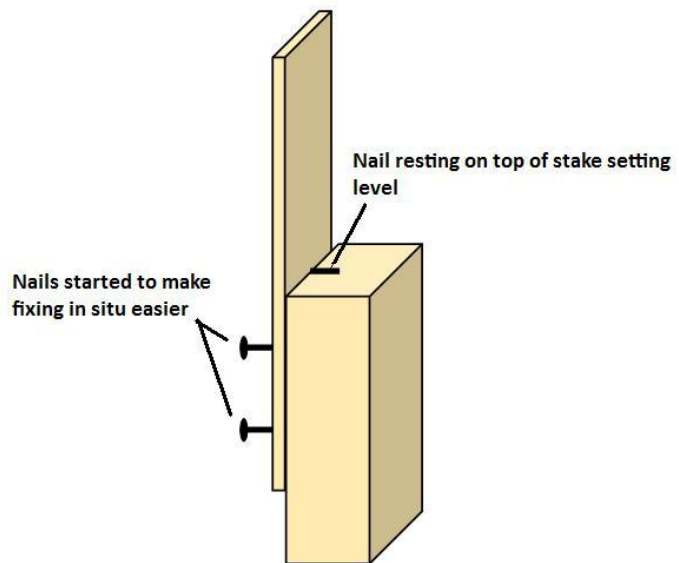

Figure 2
*When fixing the profile board to the stake, having set the profile board up already as in the figure 2, placing your shin against the back of the stake as you drive in the nails, this limits the amount of disturbance caused to the stake.*